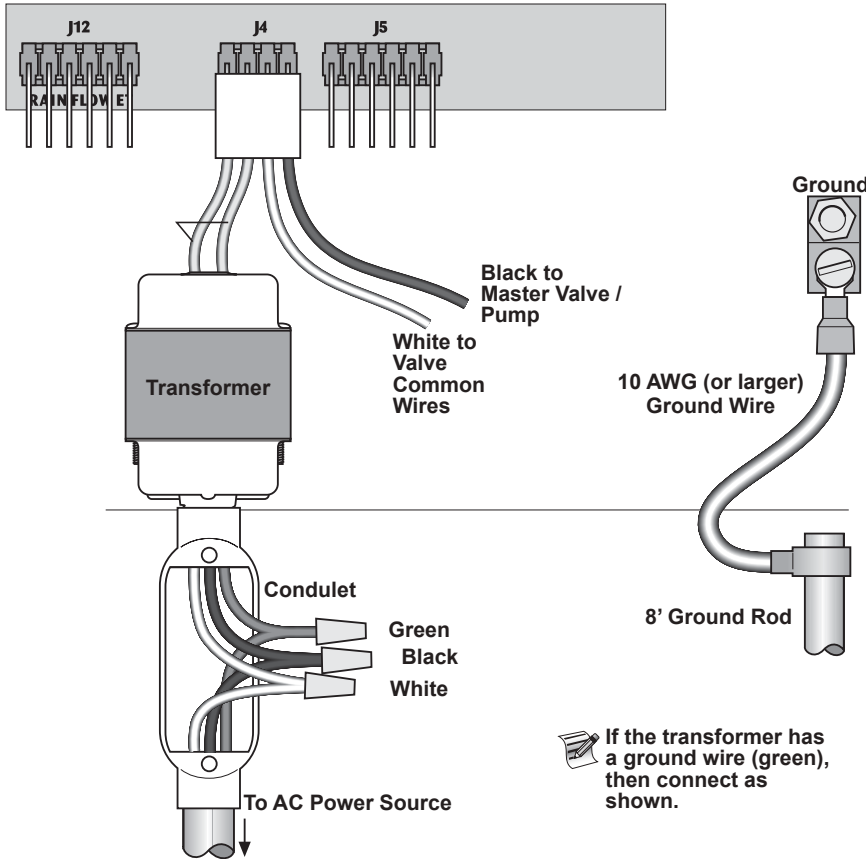

Figure 4 - Power and Grounding Connections
4. Refer to Figure 4 - Power and Grounding Connections.